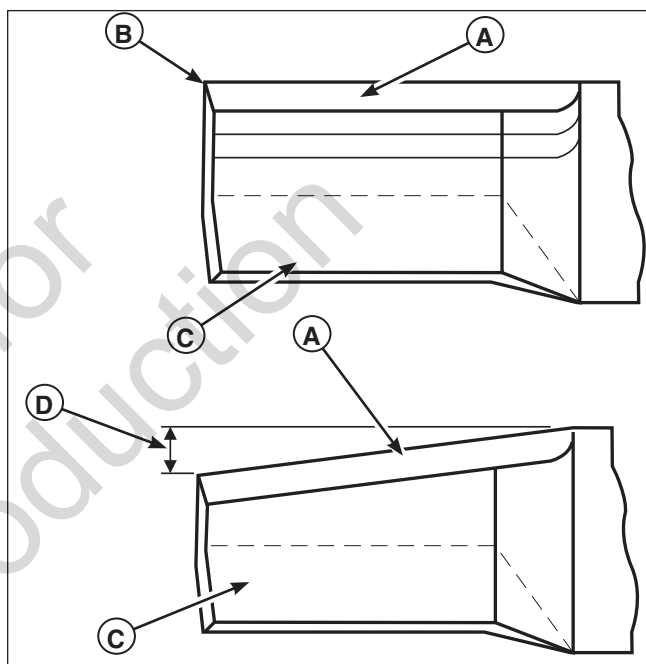

Figure 22. Inspecting the Mower Blade Tips
2. Inspect the mower blade (**Figures 22 & 23**). Discard the mower blade if it has any of the below conditions:
- A.) Has more than .5" (12,7 mm) of the mower blade metal removed from previous sharpening or wear (**D**, **Figure 22**).